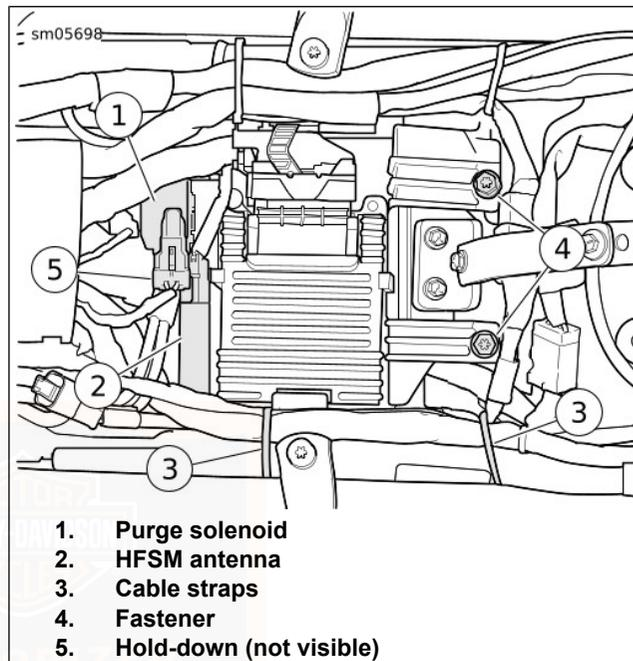
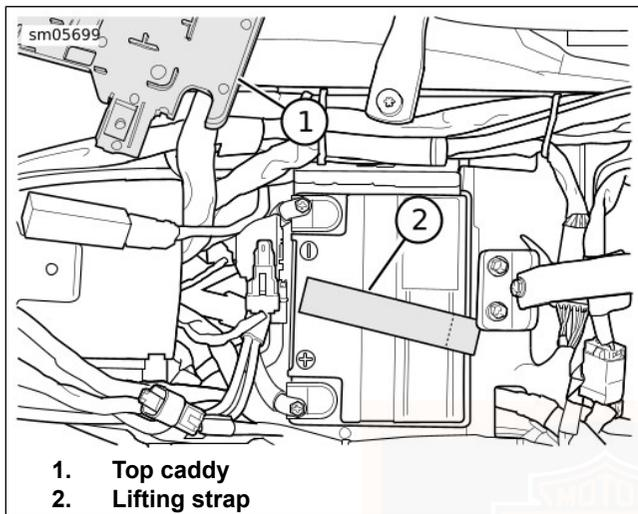

Figure 62. Top Caddy
Figure 63. Move Top Caddy Aside
2. See Figure 62. If present, move purge solenoid (1) forward to release from top caddy. Release HFSM antenna (2) from top caddy and move out of the way.
3. Remove fasteners (4).
4. Cut cable ties (3) and move harnesses to allow more clearance for the top caddy.
5. See Figure 63. Release top caddy from front hold-down bracket and rotate top caddy (1) out of the way.
6. See Figure 63. Fold lifting strap (2) forward over top of battery.
7. See Figure 62. Rotate top caddy into position above battery and engage latch on hold-down bracket.
8. If equipped, engage HFMS antenna (2) and purge solenoid (1) on top caddy. Verify all other connectors and harnesses are routed below the purge solenoid mounting tongue.
9. Fasten top caddy to frame crossmember. Tighten screws (4) to 8.1–10.9 N·m (72–96 **in-lbs**).
10. Secure harnesses to frame with cable ties (3).